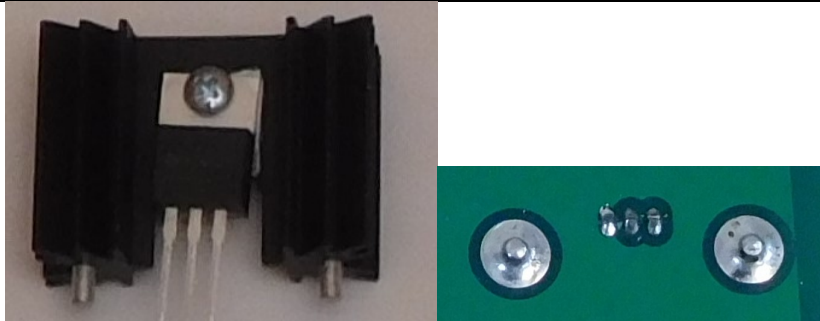

Figure 5-Regulator and Heat Sink mounting screws and soldering mounting posts
2. Fasten the regulator to the heat-sink using a 4-40x5/16" Phillips head screw and 4-40 keps nut (a nut with a built-in lock washer) as shown in Figure 5.
Figure 5 shows the details of the mounting screws and soldering the heat-sink posts on the bottom of the board.